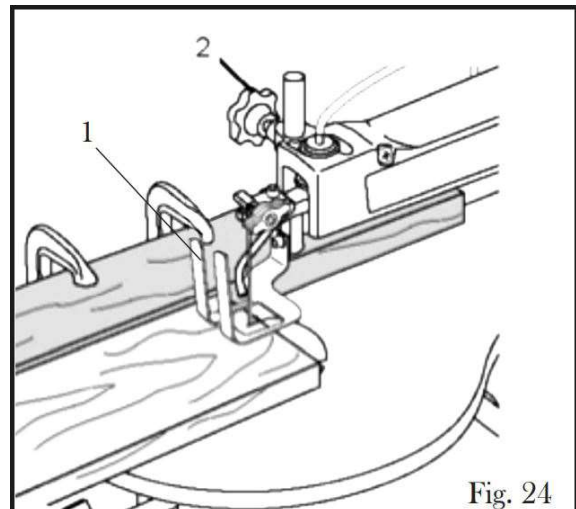

Figure 24
1. Raise the foot of the blade guard (1) by loosening the blade guard height adjustment knob (2). See figure 24.